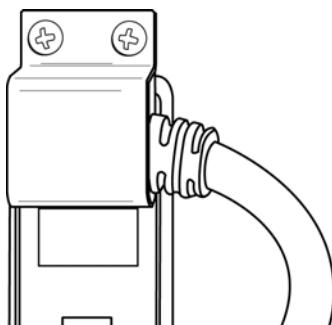

Figure 3.2 Power Cable Connector with Guard
1. Remove the (2)Phillips pan-head screws in the top portion of the power cable guard at the rear of the unit (see figure 3.2)